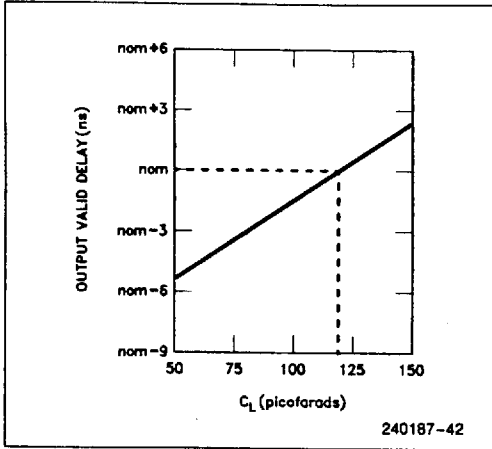

Figure 7.8. Typical Output Valid Delay versus Load Capacitance at Maximum Operating Temperature ($C_L = 120$ pF)
4. Tested with C_L set at 50 pf and derated to support the indicated distributed capacitive load. See Figures 7.8 though 7.10 for the capacitive derating curve.